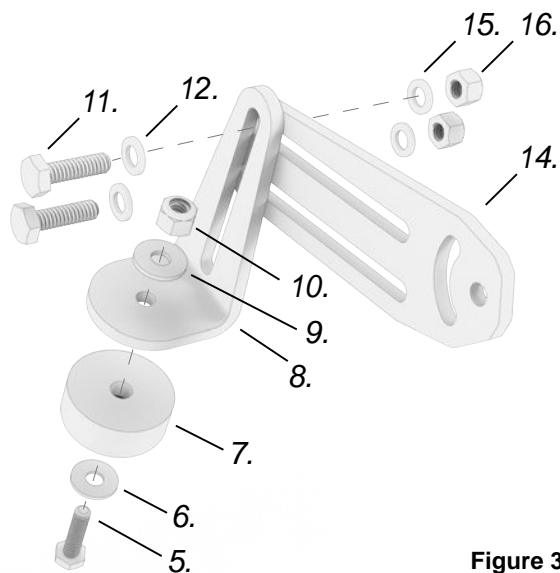

Figure 3
Step 4. Then, assemble items (11 - 16) in the order shown in Figure 3.